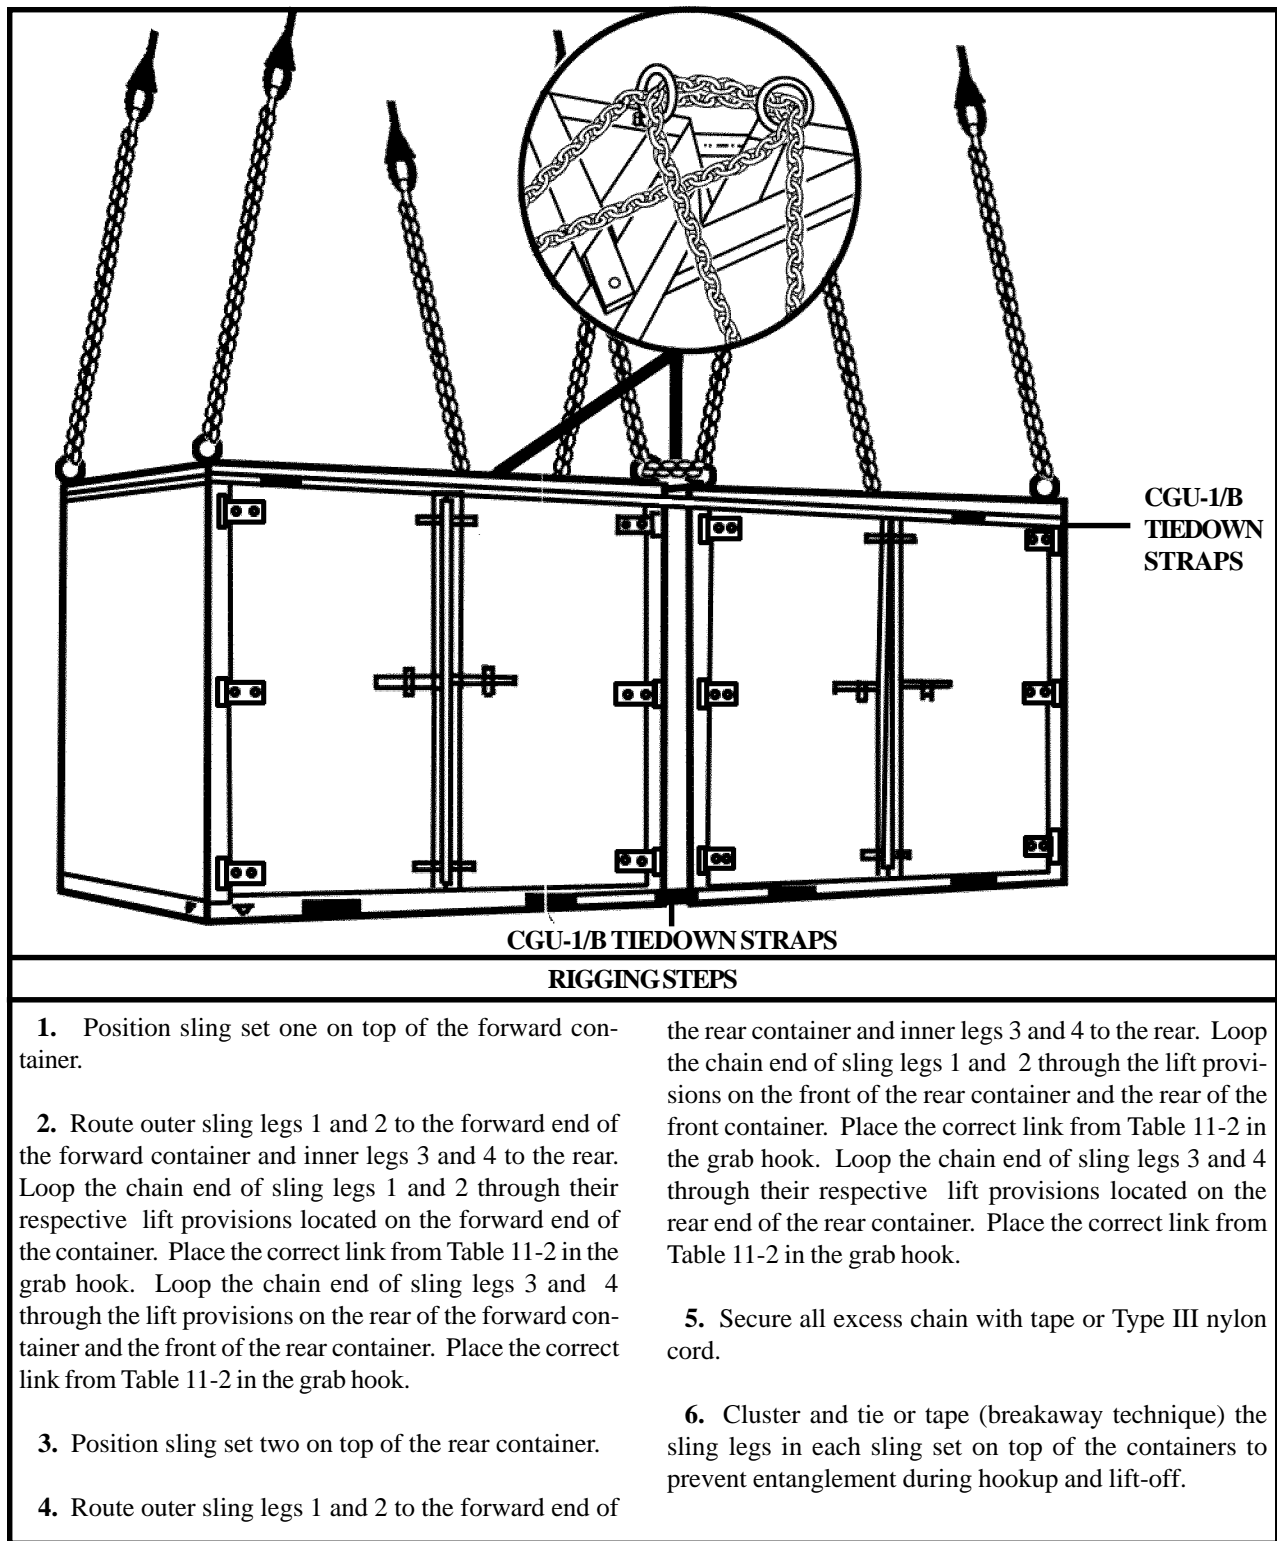

Figure 11-2. Two ISU-90 Shipping/Storage Containers
(2) **Rigging.** Rig the load according to the steps in Figure 11-2.
(4) **Derigging.** Derigging is the reverse of the preparation and rigging procedures in steps d (1) and d (2).